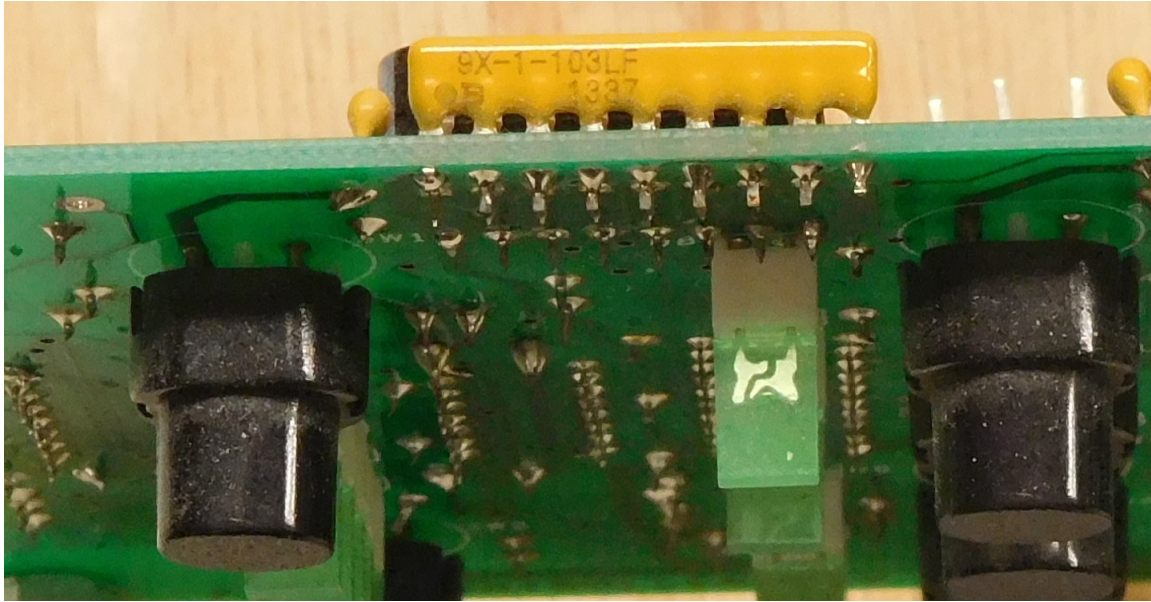

**Figure 27-LED with white spacer added**
1. Mate each of the 15 LED's with a plastic spacer as shown in Figure 27. These spacers make it easy to assure uniform height above the PCB.
- b. If the leads are cut, you can see the difference in the shape of the metal lead-frame inside the green plastic of the LED (Figure 27).